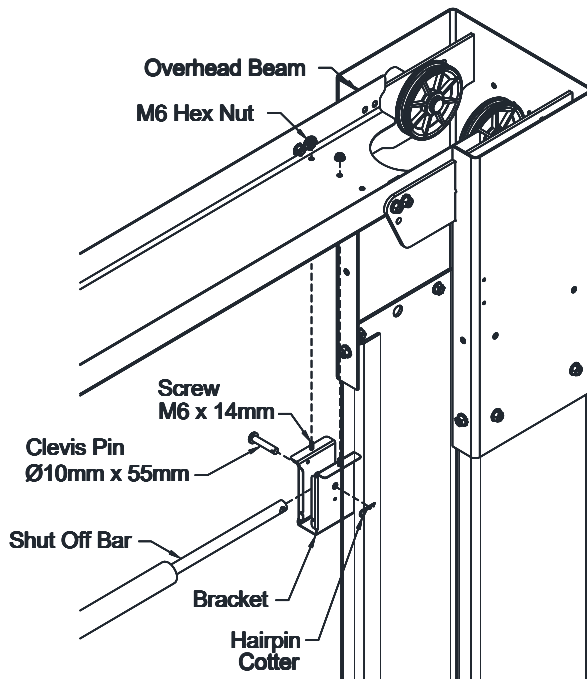

Fig. 12b – Overhead Bracket Idler Side
- 29) Install the idler bracket to the overhead beam using the rear set of holes on the idler side of the lift. **Fig. 12b**. Note the orientation of the idler bracket. The narrow slot needs to be facing towards the power column. Slide the shutoff bar over the limit switch on the power side. Pin the shutoff bar to the idler side bracket with the 10mm dia. x 55mm lg. clevis pin & hairpin cotter.